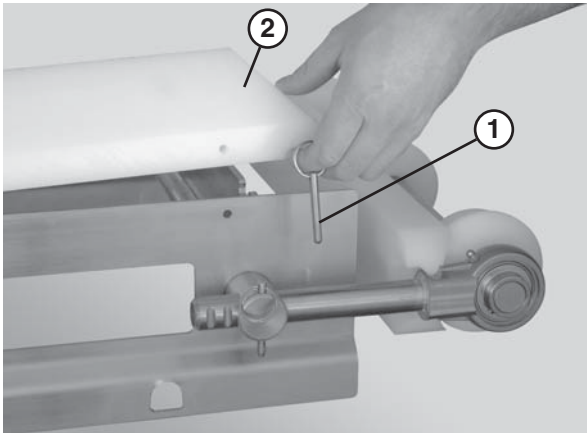

Figure 42
1. Remove the pull pins (**Figure 42, item 1**) that connect the guide (**Figure 42, item 2**) to the frame.